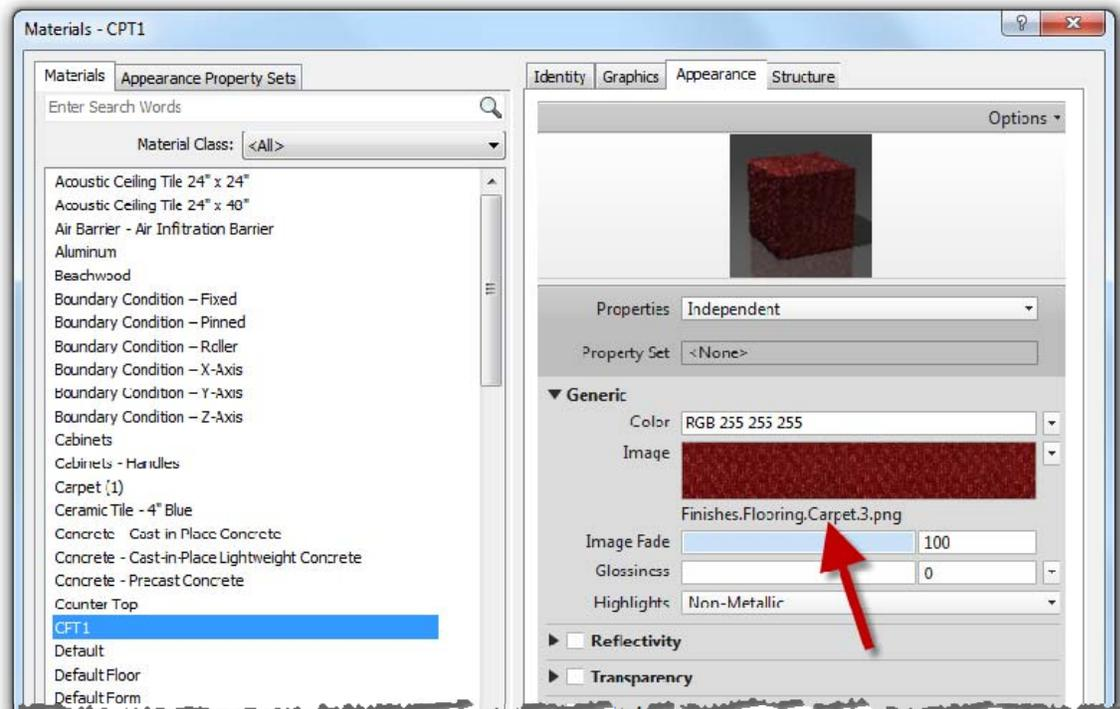

FIGURE 4-3.9 Keynotes selection dialog
Notice, on the *Appearance* tab (Figure 4-3.9), that a JPG raster image is assigned to this material. You will download an image for the carpet mfr. website and then edit your *Material* to use this new image. Keep in mind that anyone who might work on the project needs access to the image file location. So, in an office environment, you would not want to save this file to you local hard drive.
18. Back in Revit, on the *Appearance* tab, click on the file name pointed out in Figure 4-3.9.